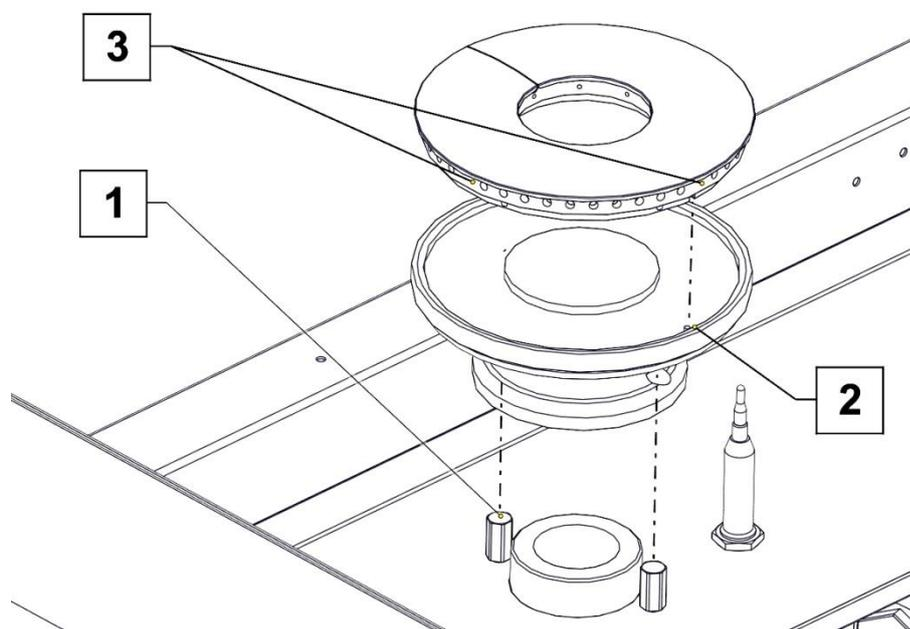

Fig 4
- 3) The Burner is in the correct position when the slot in the Brass Burner Cap is directly under the Pan Support Finger (see Fig 4).**